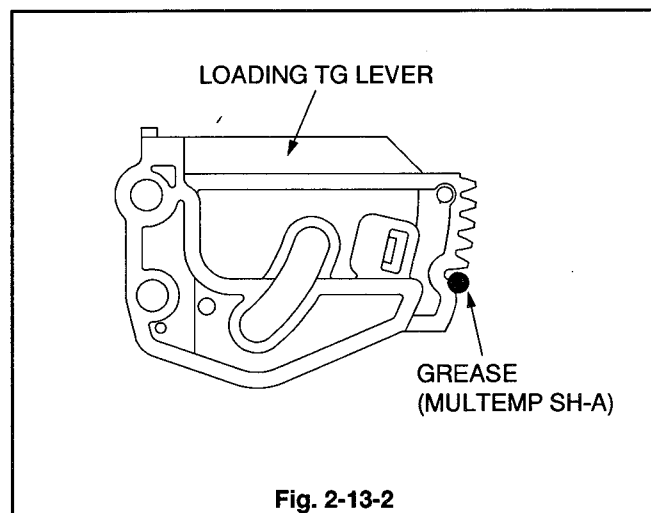

Fig. 2-13-2
- 1 Apply GREASE (MULTEMP SH-A) [859D055O80] to the area specified in Fig. 2-13-2 on the new LOADING TG LEVER.